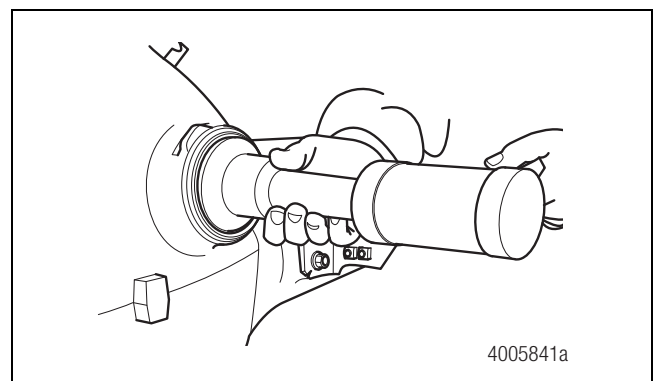

Figure 5.11
16. Use the appropriate seal driver or suitable tool and a rubber mallet to install the new oil seal. Figure 5.11.